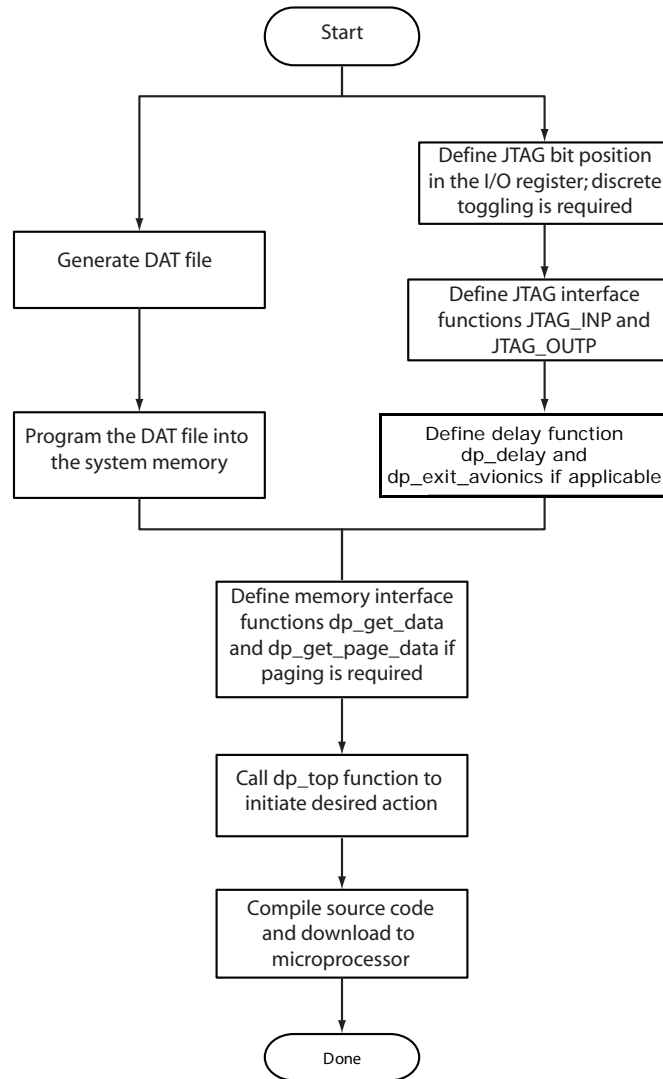

Figure 2-1 • Importing DirectC Files
Figure 2-1 shows the DirectC integration use flow.
2. Modify the DirectC code. Refer to Figure 2-1.